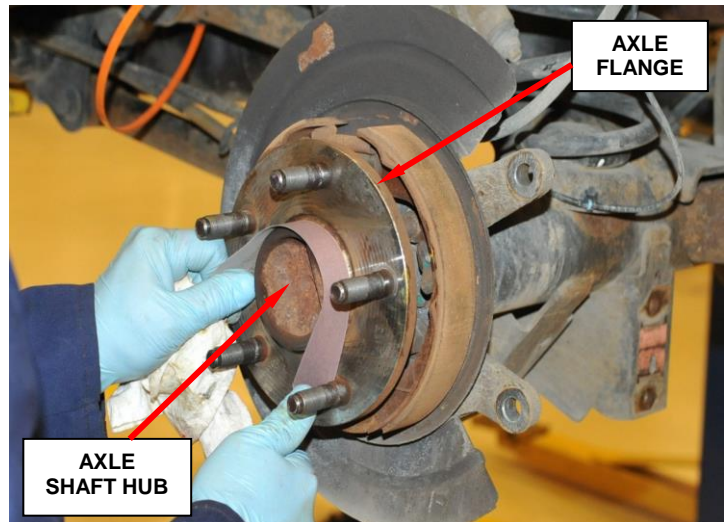

Figure 46 – Clean Axle Flange Hub
54. **For trucks with the original axle shaft(s)**, using a piece of emery cloth, remove all corrosion from the axle shaft hubs (Figure 46).